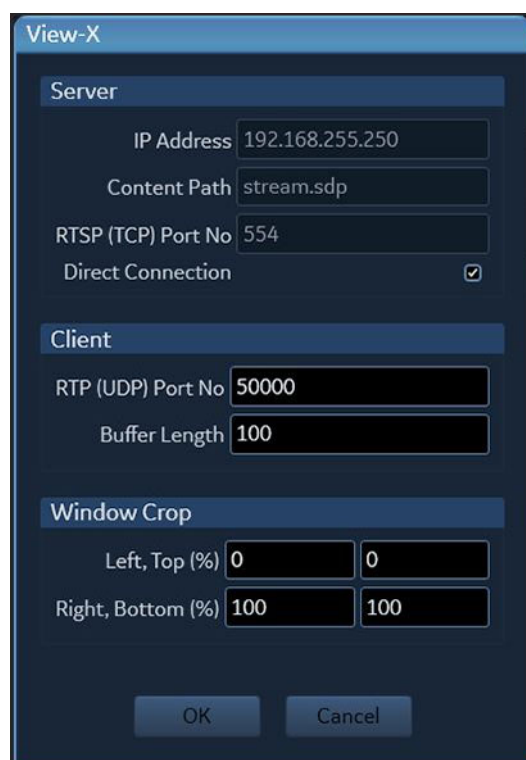

Figure 14-9. View-X Video streaming setup
4. Configure the *Video Streaming* server and client as necessary (Figure 14-9).